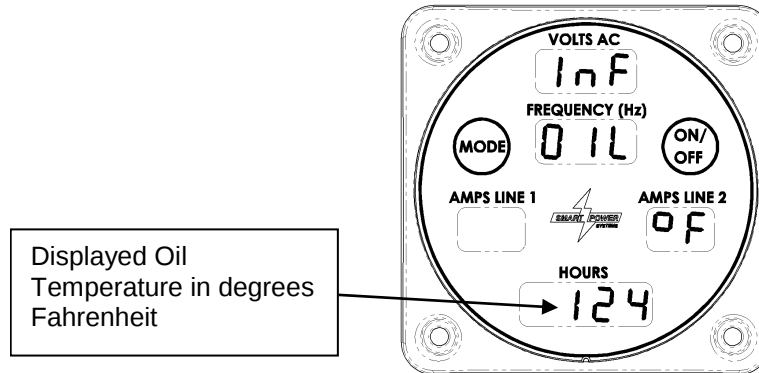

Figure 18 – System Temperature Display
- a. When the Command & Control Center is in Normal mode, pressing the Mode switch once will display the oil temperature as in Figure 18, below.